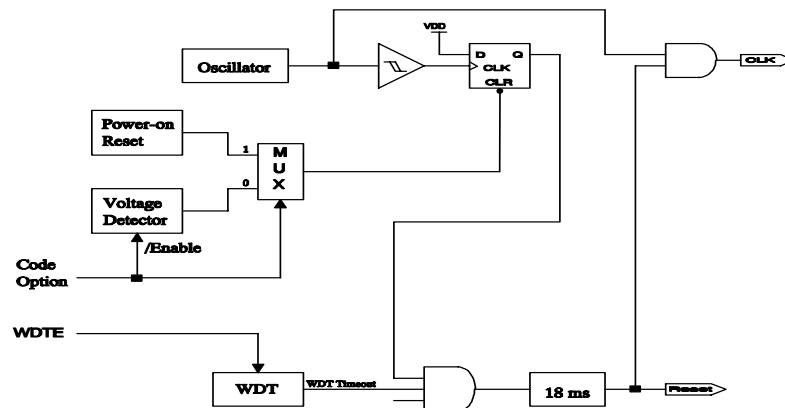

Fig. 14 Block diagram of Reset of controller
- (1) Power on reset, or Voltage detector
- (2) WDT timeout. (if enabled and in GREEN or NORMAL mode)
Note that only Power on reset, or only Voltage detector in Case(1) is enabled in the system by CODE Option bit. If Voltage detector is disabled, Power on reset is selected in Case (1). Refer to Fig. 14.